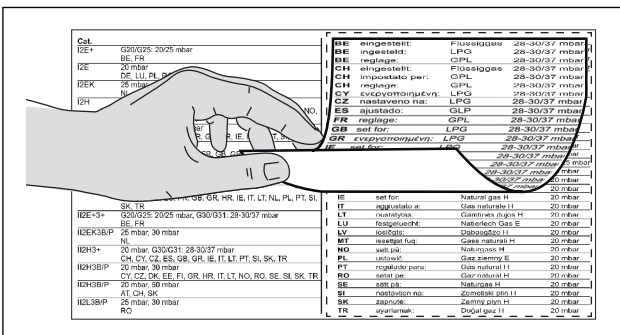

Fig. 5.28 Affixing the nozzle set nameplates
- ▶ Affix the nozzle set nameplates supplied in the scope of delivery to the space provided above the nozzle set nameplate on the bottom of the cooktop (see fig. 5.28) and on the back of these operating and installation instructions.